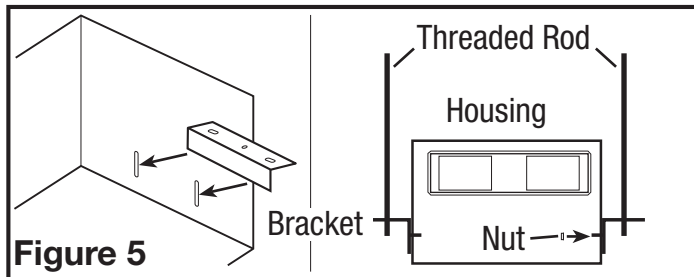

Figure 5
- If the mounting brackets are not already in place, install both brackets through the top set of slots on the fan housing and secure in place with the four included nuts as shown. Lift unit up onto the threaded rods and secure in place using appropriate hardware (not included) (Figure 5).